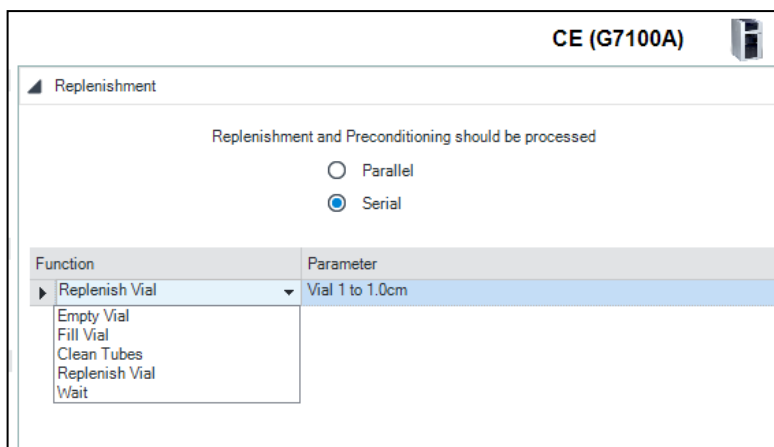

Figure 19 Replenishment Table
- If **CEC** is selected, the instrument method offers an additional initial value **Pressure** on the left-hand CE method screen. Selecting **External**, the pressure is applied to both home vials during run execution (see Figure 19).